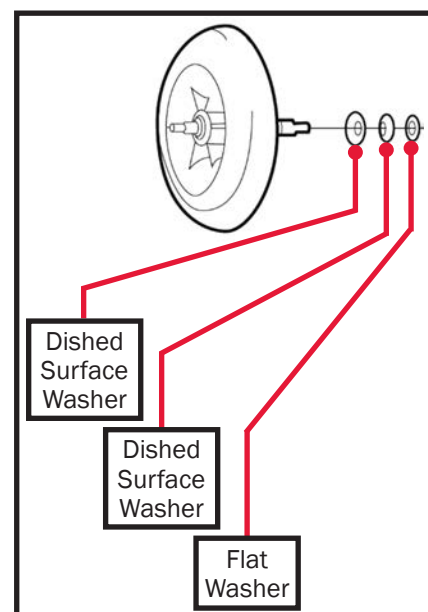

Figure 111
NOTE: Be sure to observe the placement of the three washers of the bearing kit. To ensure proper tension, the same order and direction of the dished surfaces of the washers must be followed when reassembling. See Figure 111.
- Reference Figure 111 for exact placement of the three washers that slide over the threaded end of the combustion air blower's shaft prior to installation. Failure to follow the correct order and direction of the dished surfaces on the washers will result in a restricted rotation of the combustion air blower.